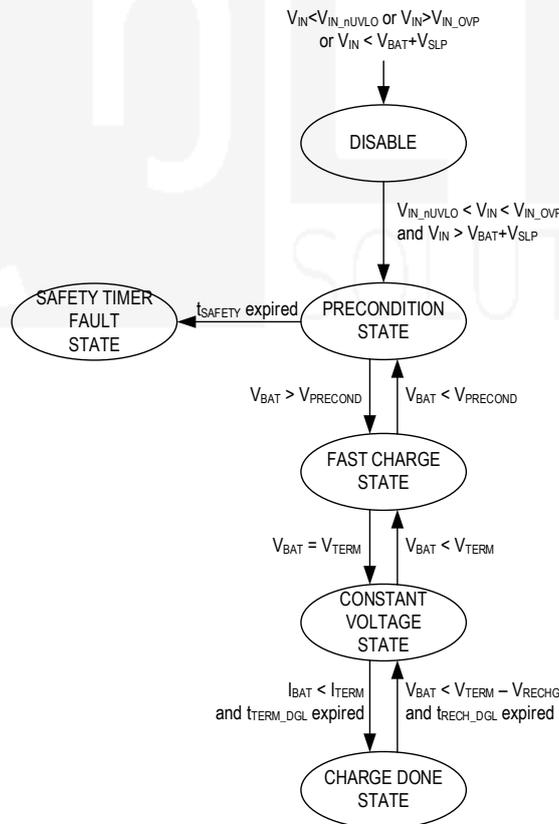

Figure 7: Charger Flow Chart
- ◆ **BATT to SYS path:** Once  $I_{BAT}$  is found over the 3.7A protection threshold, both the LDO FET and the BATT FET are turned off immediately and the operation of the IC goes into the hiccup mode. Besides, while the battery discharge current limit threshold is reached, the hiccup mode also starts after a 60 $\mu$ s delay. The interval of the hiccup mode is 800 $\mu$ s. For details, please refer to flow chart in Figure 7.